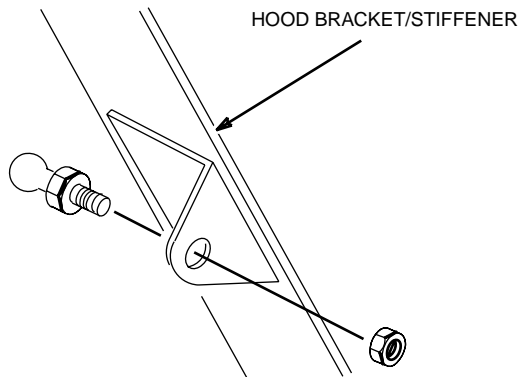

Figure 3
7. Install a ball stud and nut onto each hood bracket/stiffener as shown in Figure 3.